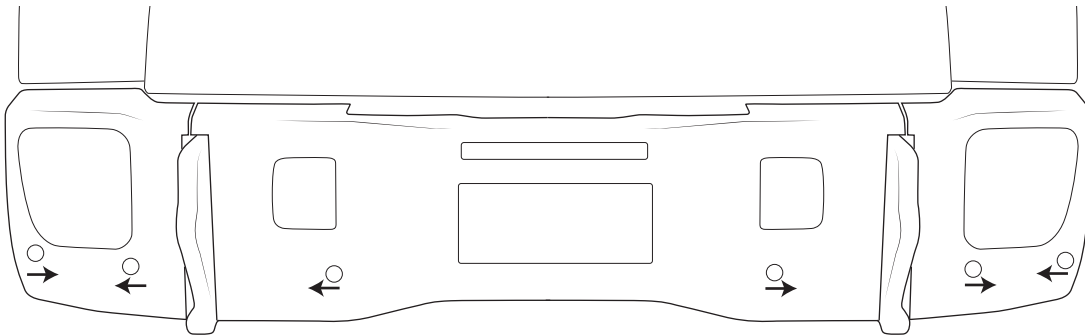

Figure 18
2. Install sensors into the bezels from the back side. Note the orientation of the sensors, the connector end should point in the directions shown (fig.18).